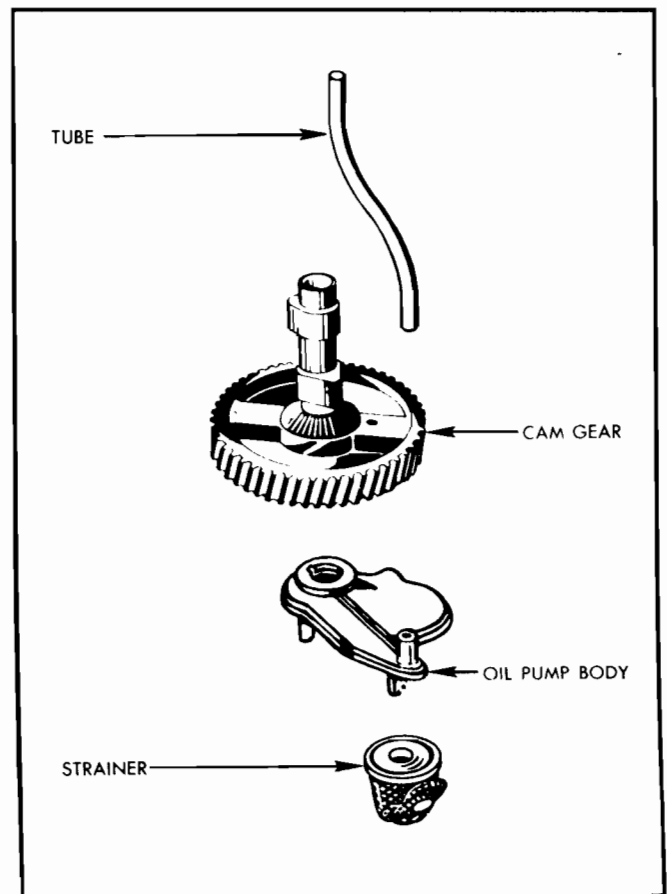

Figure No. 5
The oil pump assembly consists of an oil pump body (which incorporates the two activating gears) and the oil pump tube. To remove the assembly, it is necessary to rotate the pump until the pin on the cam gear lines up with the grooves in the pump. The assembly is easily removed at this point. (See Figure No. 5.)
1. The brass oil line must be properly lined up with the oil pump. One end fits into the hole in upper right hand corner of the crankcase, while the other fits over the oil pump. (See Figure No. 5.)